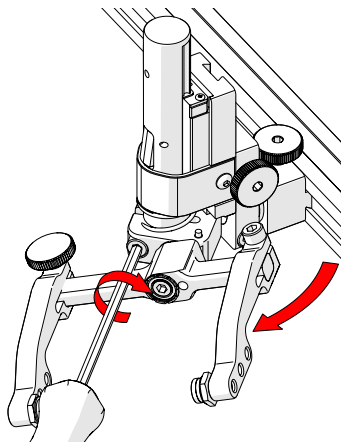

Fig. 123 - Rotate and tighten
3. Tighten the transverse adjustment screw (*Fig. 123*).